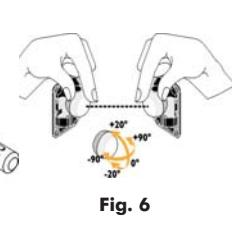
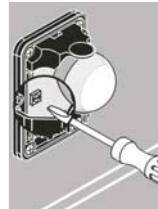

Fig. 6
Fig. 8
- 8 - After the alignment (Fig. 6) and the adjustment (Fig. 8), (see next paragraph) fit the cover using the special screws with anti-vandalic head making use of the tool supplied (Fig. 13)
Align the transmitter and the receiver so that the beam is established and the red led (LR) goes off (Fig. 6 and Fig. 8).
Adjust the sensitivity with the trimmer on the receiver (Fig. 8).